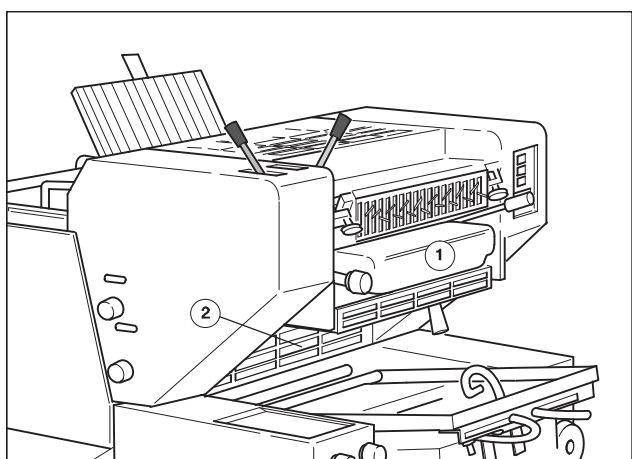

Fig. 77 PU 2: open the guard in front of the dampening system
1. Remove the dampening solution container (Fig. 77/1).
2. Fold up the guard in front of the dampening system (Fig. 77/2).